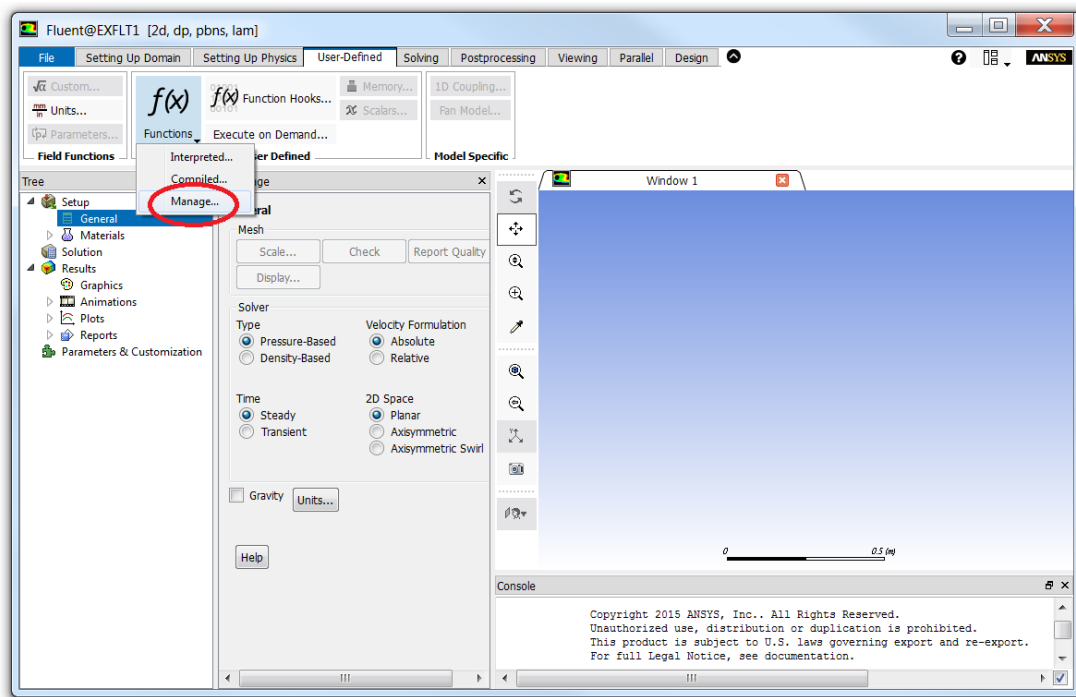
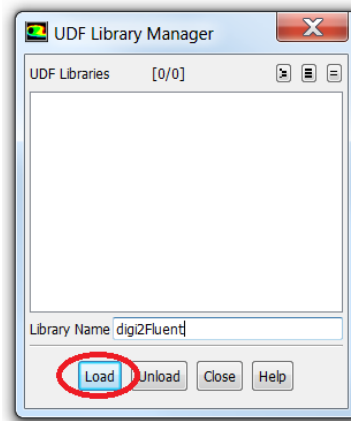

Figure I.4.12: Library manager opening
Figure I.4.13: Digimat-CAE/ANSYS Fluent interface dynamic library loading
3. The Digimat-CAE/ANSYS Fluent interface dynamic library must be loaded into ANSYS Fluent. Access the UDF Library Manager (see figure I.4.12) and **Load** the library using the copied folder name, e.g. "digi2Fluent" if renamed as in the previous operation (see figure I.4.13).